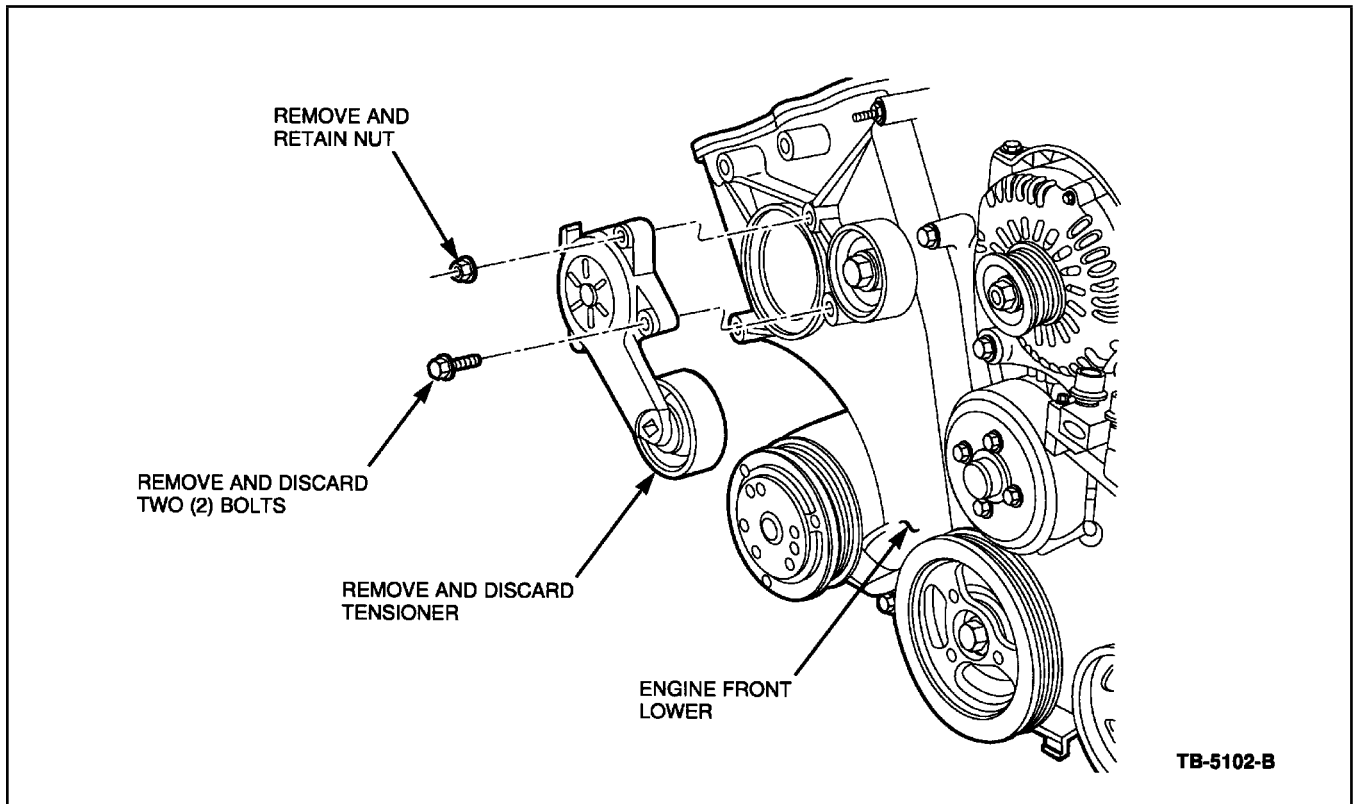

Figure 4 - Article 98-20-18
6. If the positive tensioner stop was not installed on the vehicle, remove the three (3) fasteners that mount the automatic belt tensioner. Retain the nut. Discard the tensioner, belt guide and both bolts (Figure 4).